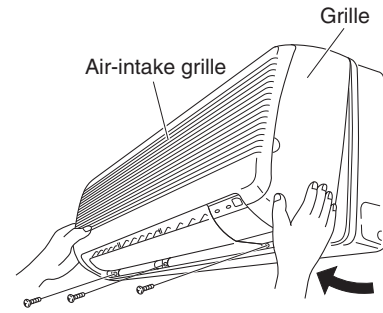
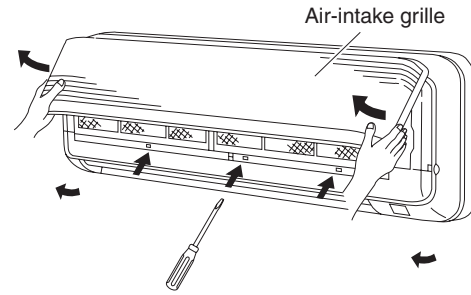

Fig. 1-73a
Fig. 1-73b
- (1) Set the 2 flaps in the horizontal position.
- (2) Unscrew the 3 screws. (Fig. 1-73a)
- (3) Remove the grille.
- (a) Hold both corners of the air-intake grille, then pull out and up to open. (Fig. 1-73b)
- (b) Use a flathead screwdriver to push up the 3 tabs to remove the grille. (Fig. 1-73b)
- (c) Pull the lower part of the grille toward you to remove. (Fig. 1-73a)